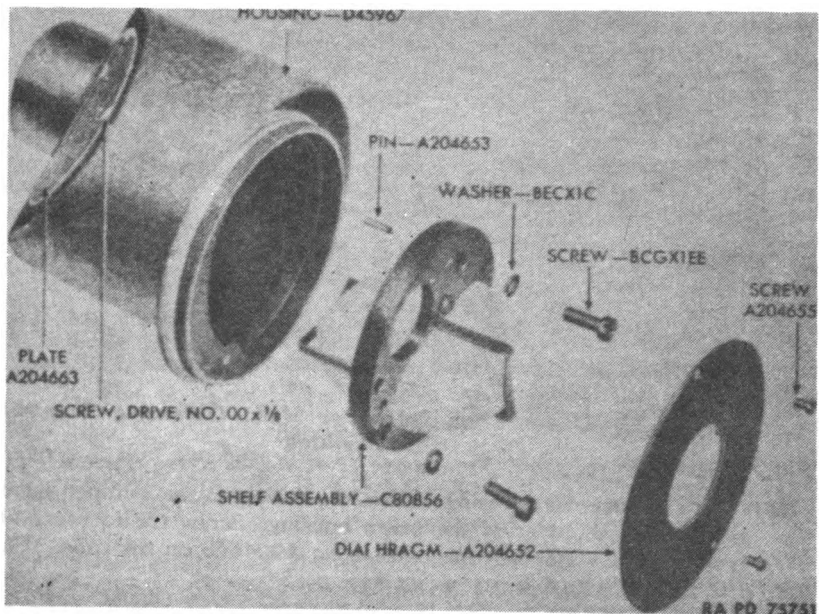
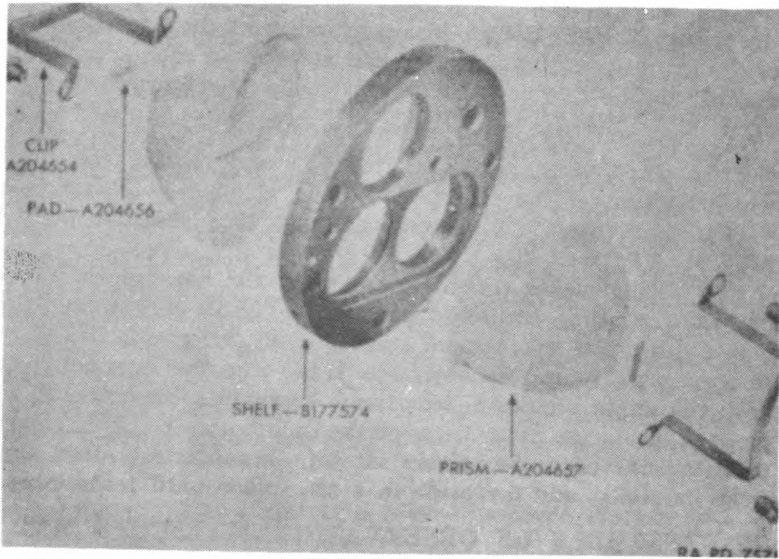

Figure 11—Observation Telescope M48—Prism Housing Assembly C80855 Partially Disassembled
Figure 12—Observation Telescope M48—Prism Shelf Assembly C80856 Disassembled
a. Record the serial number from the name plate. The name plate is located on the housing (figs. 11 and 17).
(3) Loosen screws A204655 (fig. 11) that hold the diaphragm, and remove diaphragm (fig. 11).
(4) Remove screws BCGX1EE and washers that hold the prism shelf assembly and lift out the shelf assembly.
d. **Disassembly of Prism Shelf Assembly.** Remove the screws (fig. 12) that hold the prism clips in place and remove the clips with